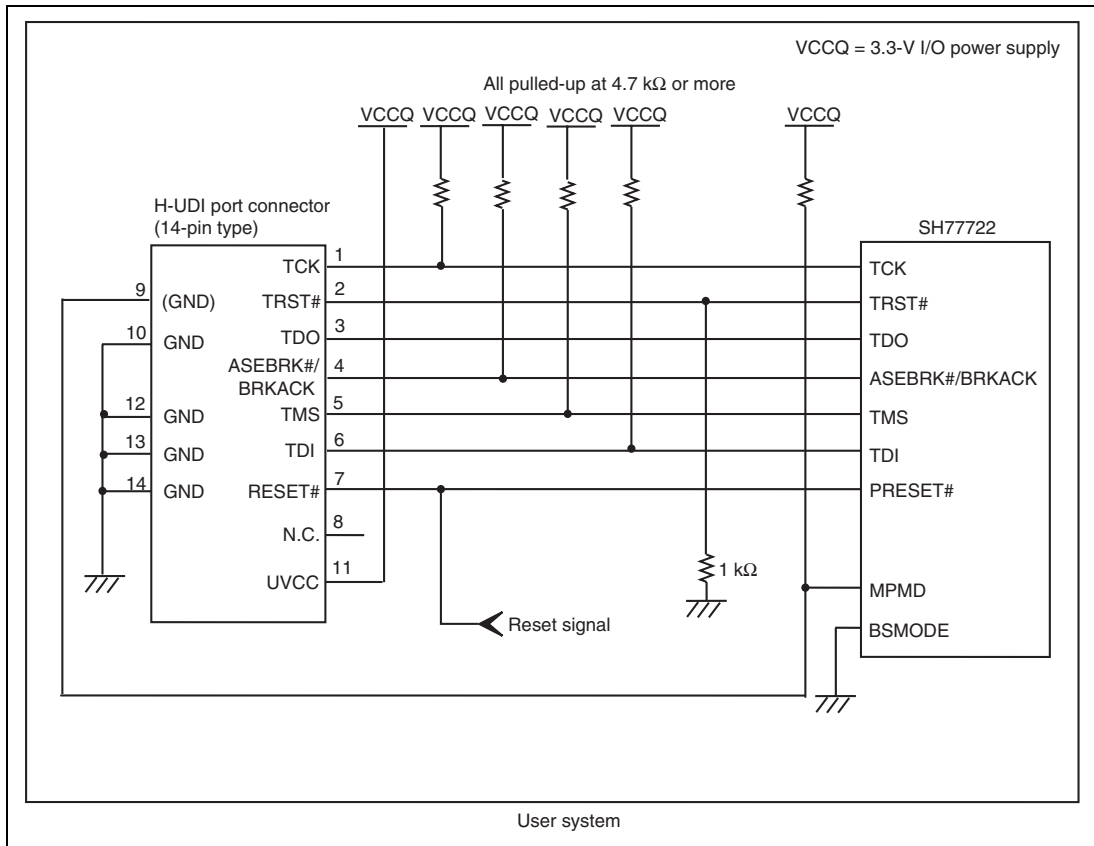

Figure 1.2 Recommended Circuit for Connection between the H-UDI Port Connector and MPU when the Emulator is in Use (14-Pin Type)
Figure 1.2 shows a recommended circuit for connection between the H-UDI port connector (14 pins) and the MPU when the emulator is in use.
- (1) When the emulator is used: $MPMD = 0$
- (2) When the emulator is not used: $MPMD = 1$Figure 1.2 shows an example of circuits that allow the MPMD pin to be GND (0) whenever the emulator is connected by using the user system interface cable. When the MPMD pin is changed by switches, etc., ground pin 9. Do not connect this pin to the MPMD pin.
6. The resistance value shown in figure 1.2 is for reference.
When the circuit is connected as shown in figure 1.2, the switches of the emulator are set as SW2 = 1 and SW3 = 1. For details, refer to section 3.8, Setting the DIP Switches, in the SuperH™ Family E10A-USB Emulator User's Manual.